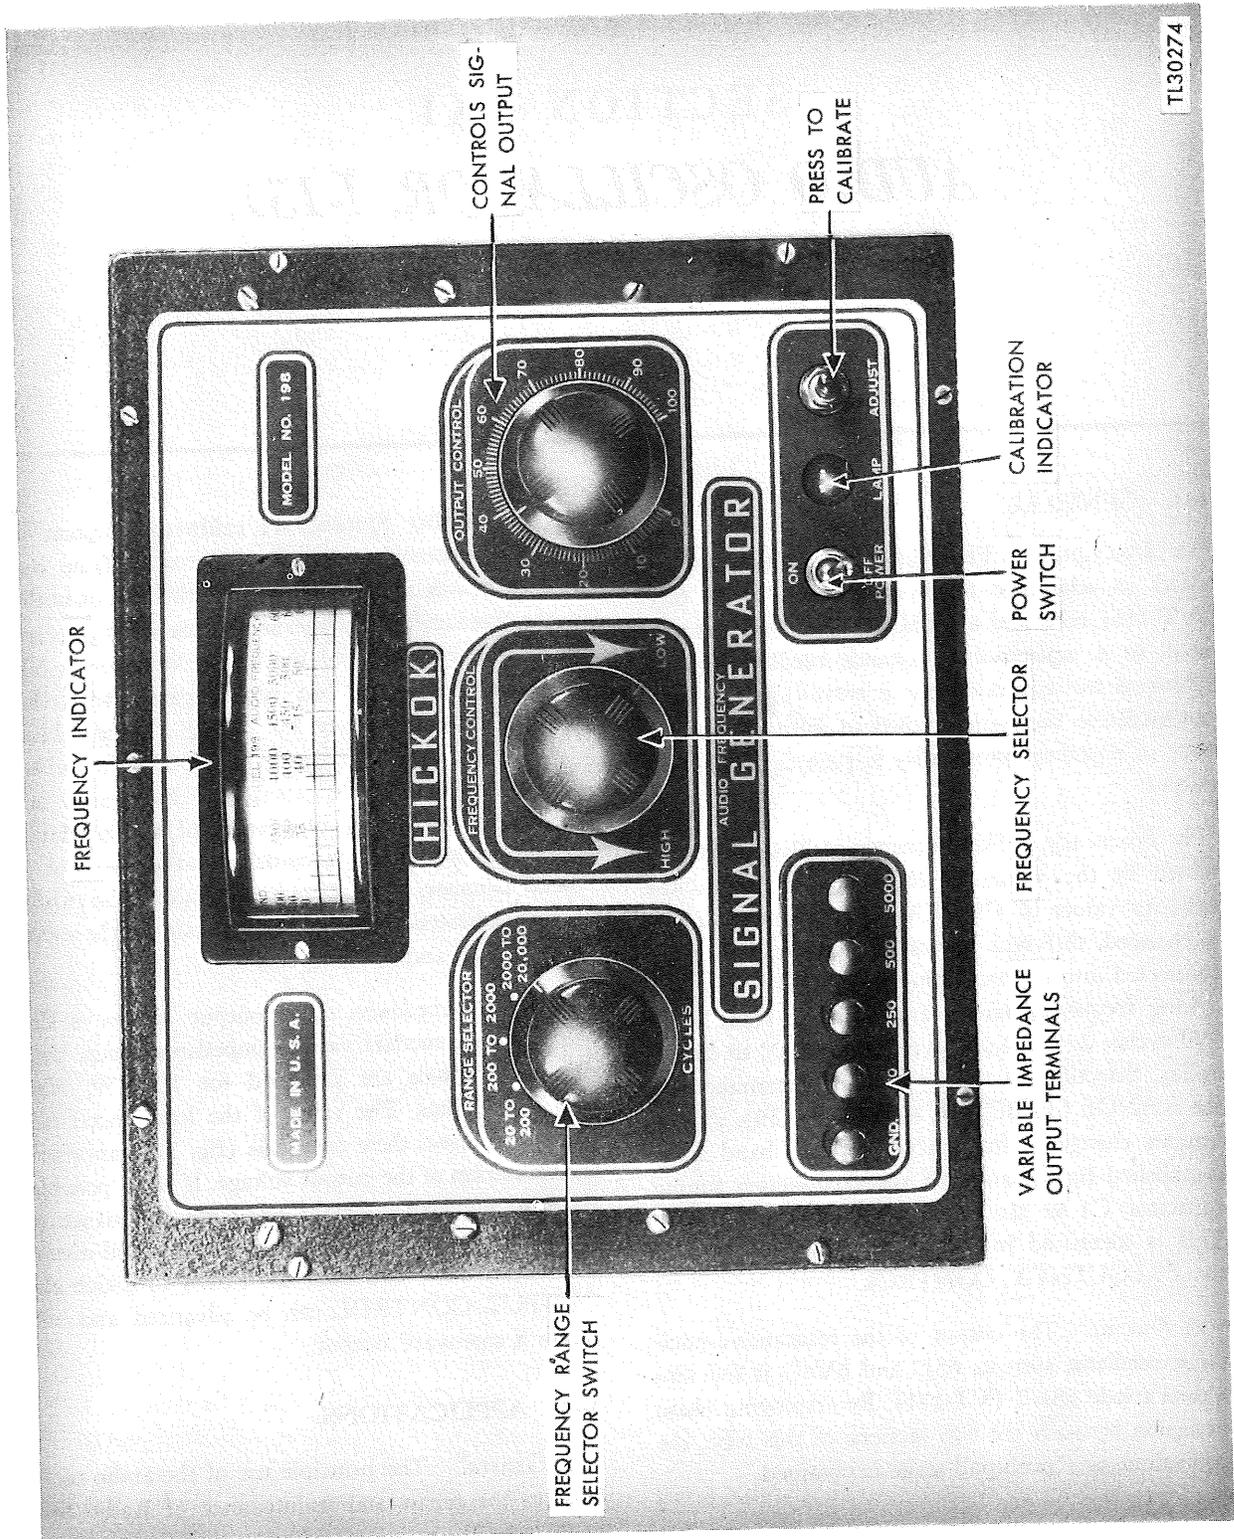

Figure 39. Audio Oscillator I-151, Hickok model 198, panel view.
b. *Frequency.* The frequency oscillation is determined by the values of R11, R12, R13 and the capacity values of C1. When the frequency range is changed, different values of fixed resistance are connected into the oscillating system. The three following frequency ranges are available: from 20 to 200 cycles; 200 to 2,000 cycles; and 2,000 to 29,000 cycles. Selection of these ranges is determined by the RANGE SELECTOR switch (fig. 39). A continuous change in frequency over each band is accomplished by variation of the dual-section tuning capacitor C1 in the schematic diagram (fig. 42). This is identified in the photograph (fig. 39) as the FREQUENCY CONTROL.
f. *Load Impedance.* The output system is designed to accommodate various impedance loads, thus output terminals are provided for 10, 250, 500, and 5,000 ohms. The value of the load impedance connected across these terminals (fig. 39) can affect the waveform of the output voltage. If at all possible, the load impedance should equal the impedance of the output transformer. A poor mismatch will distort the output wave and limit the extent to which the OUTPUT CONTROL can be advanced and still retain a sine-wave output.
(1) Rotate the dial past the lowest frequency as far as it will go. The hairline on the dial lens should line up with the red line on the dial proper. If this condition is satisfied, it may be necessary to make an adjustment (subpar. (2) below).
(2) It is not expedient to make any adjustment to correct errors in calibration if the existing calibration is found to be within 2 percent or within one cycle at the 60-cycle-per-second setting on the dial. If, however, an error in excess of this amount is found, set the dial to read exactly 180 cycles. Depress the ADJUST button. With this button depressed, use a screwdriver to vary the correction control which is accessible through an opening in the left side of the case, until a zero beat is indicated on the neon LAMP. This is a delicate adjustment because the oscillator frequency is equivalent to the third harmonic of the line-supply frequency.
l. Adjust the output voltage by means of the OUTPUT CONTROL illustrated in figure 39.